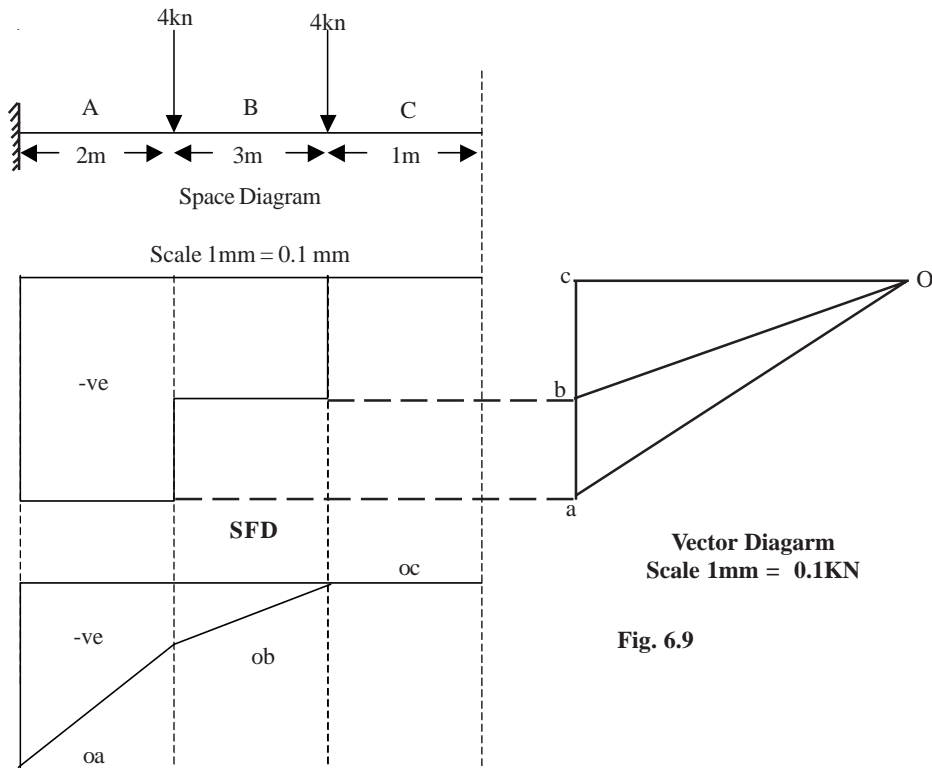

Fig. 6.9
- 1 Draw the space diagram to a suitable scale. Name the spaces as per Bow's notation. (Fig. 6.9)